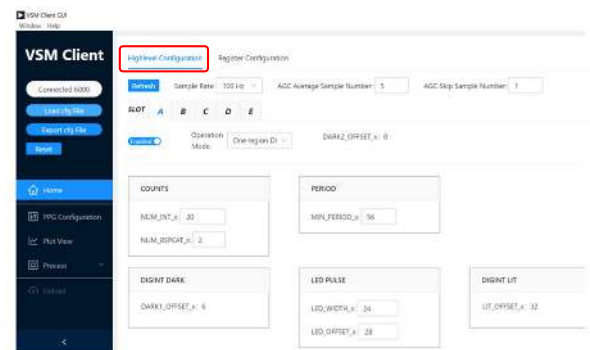

Figure 32. Highlevel Configuration Tab
4. After loading the configuration file, the **Highlevel Configuration** tab shows the current device data (see Figure 32). This tab shows the most used controls, which can be configured. To reset the data, click **Reset**.